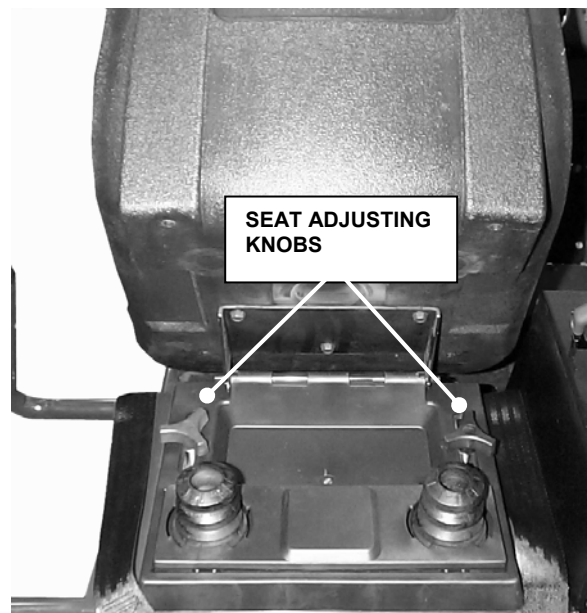

FIGURE 2.2
2.1.10. Adjust Operator's Seat. With engine stopped, and park brake set, loosen two seat adjusting knobs and move seat to desired position. Re-tighten both knobs securely. See Figure 2.2.